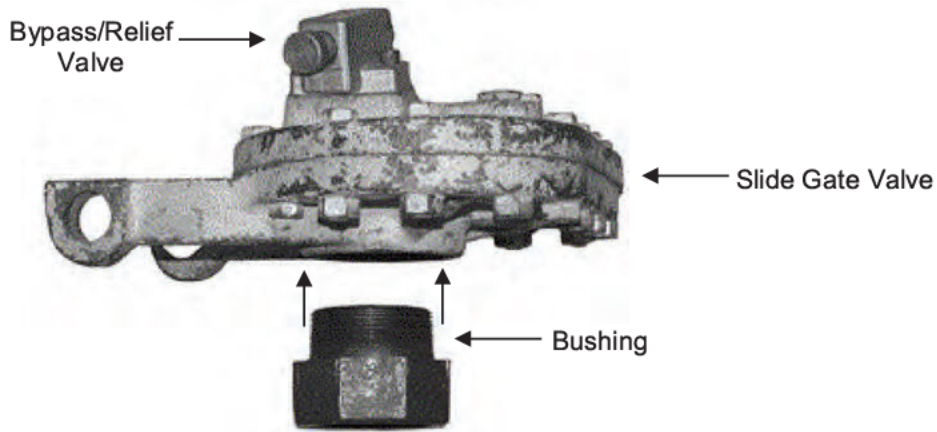

Figure 3. Slide Gate Valve With Bushing
- a. Attach valve bushing to lower side of slide gate valve AND tighten using smooth-faced wrench. (See Figure 3.)